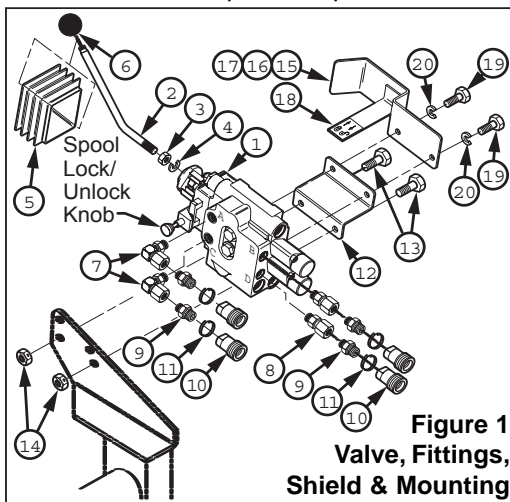

Figure 1
This kit includes a series valve. A series valve may be preferred over a parallel valve because of relative ease with which two functions can be performed simultaneously. However, attempting to simultaneously lift and roll back will cause a reduction in power and, eventually, a stall. To prevent this, a shield (15 Figure 1) is installed onto valve, which will allow lift or roll back, but not both simultaneously. It is important that this shield (15) be in place at all times to assure maximum loader efficiency. This shield also displays important safety (17) and operation decals (16 & 18) which must be visible and legible on valve at all times.
NOTE: Valve handle is equipped with a spool lock/unlock feature. Spool lock/unlock operation decal (18) near handle boot (5) shows how to operate small knob at base of handle linkage to allow or prevent handle operation. (See Figure 1.)
ATTACHING VALVE TO LOADER MOUNTING BRACKETS (Figures 1, 2, 3 & 5)
5. Use 11" plastic tie straps (33) to secure hoses (27 & 28) and sleeves (29 & 35) to elbow fittings (39). Use 11" plastic tie straps (33) to secure hoses (27 & 28) together to valve mounting tube (13).
6. Turn control screw on tractor hydraulic block counter clockwise to "C" position. (Figure 1)